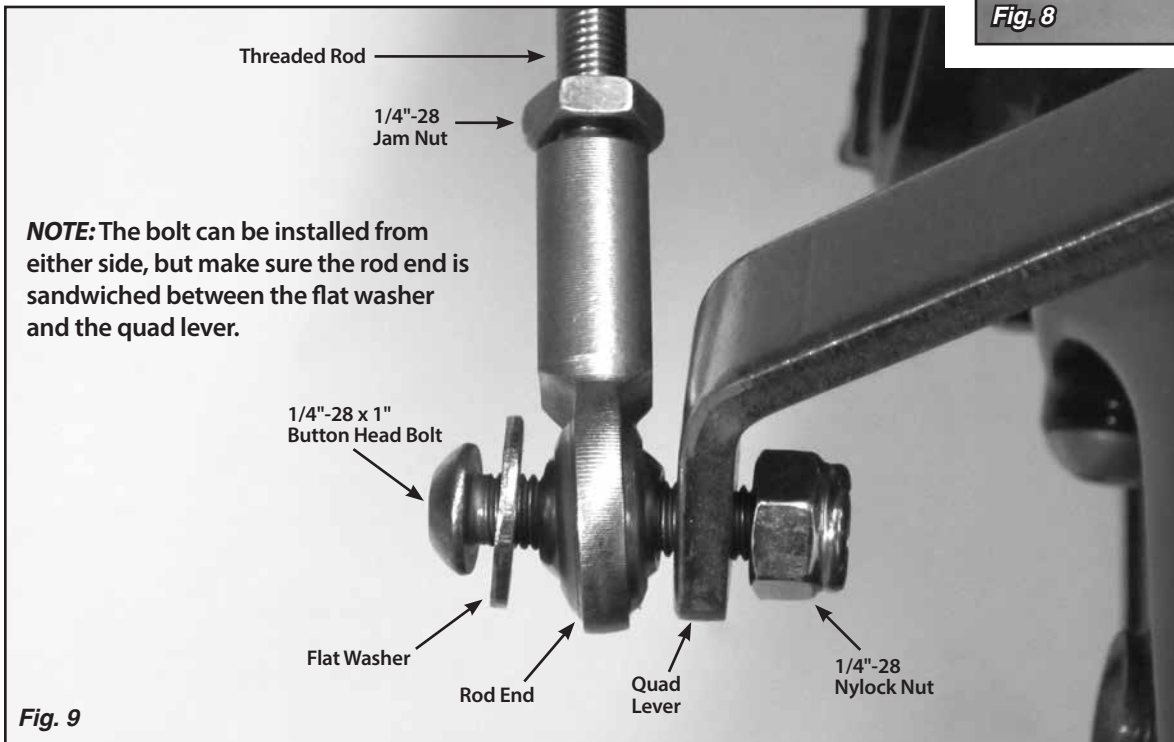
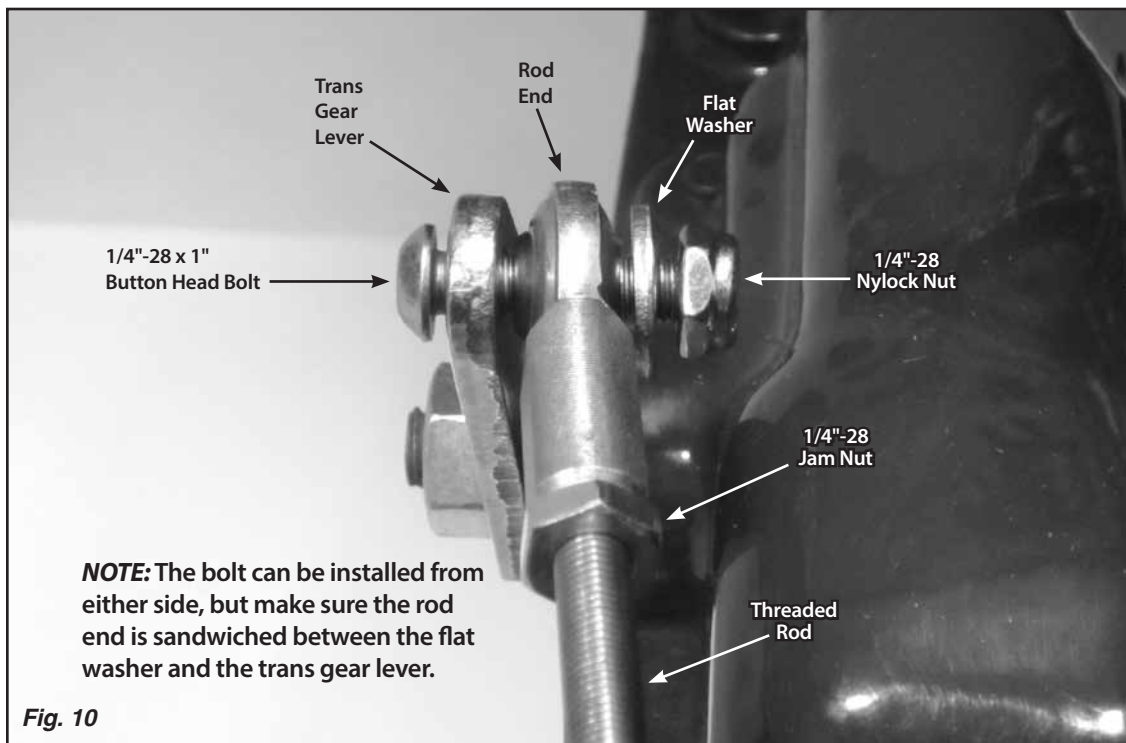

Fig. 9
Fig. 10
**Step 14:** Verify that both 1/4"-28 jam nuts are on the threaded rod, and install a rod end onto each end of the threaded rod. Attach the threaded rod assembly to the **inside** of the trans gear lever and to the **outside** of the quad lever using the 1/4"-28 x 1" button head bolts, flat washers, and nylock nuts as shown in **Fig. 9** and **Fig. 10**. The button head bolts can be installed from either direction, but make sure each rod end is sandwiched between the flat washer and the trans gear lever or quad lever.